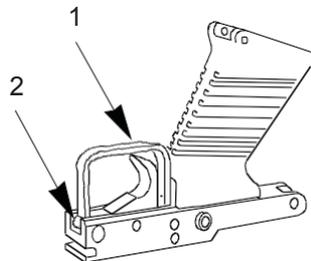

Figure 9. Trigger Guard, Spring Pin.
11. Place loop of trigger guard (Figure 9, Item 1) in pistol grip slot and apply rearward pressure to front of trigger guard until it clears and fits behind spring pin (Figure 9, Item 2).